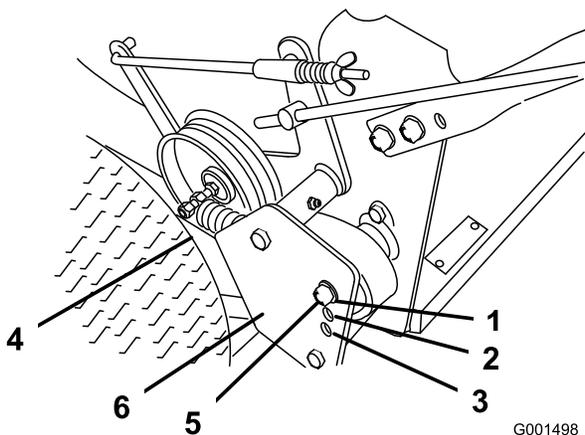

Figure 10
4. Remove the drive spring from the adjustment bolt (Figure 10).
5. Remove the locknut that secures the adjustment bolt to the drive pulley shield (Figure 10).
- Note:** The wheel drive tension is lowest when the bolt assembly is in Position A. The tension increases in Positions B and C (Figure 10).